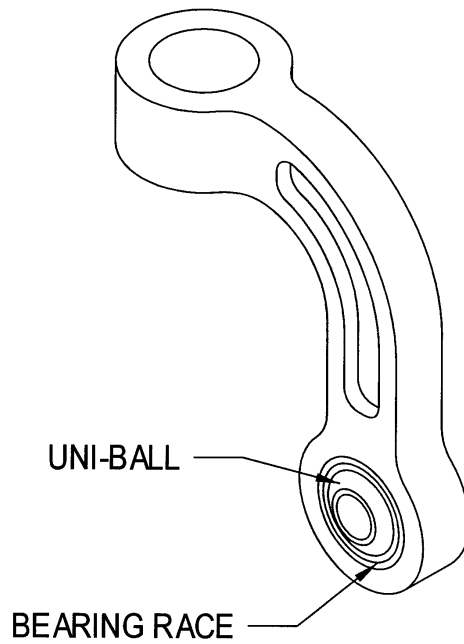

Figure 2. Uni-Ball Bearing Location
1. Using a suitable light source, as required, visually inspect each of the dog leg assemblies for condition and/or excessive radial play/wear between the bearing uni-ball and the uni-ball bearing race (Refer to Figure 2). To accomplish this inspection, a second person should slightly rotate, in the pitch axis, the main rotor blade corresponding to the dog leg assembly being inspected.